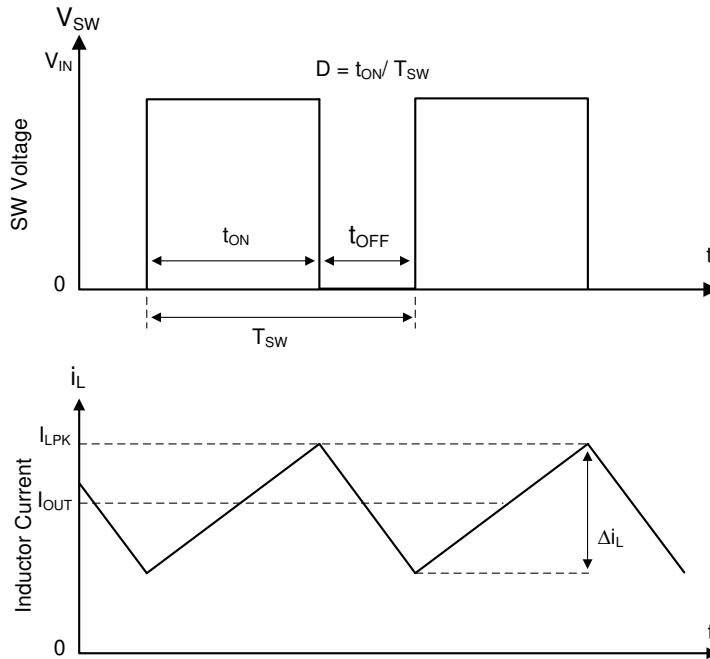

Figure 7-1. SW Node and Inductor Current Waveforms in Continuous Conduction Mode (CCM)
The following operating description of the LMR516xx refers to the Functional Block Diagram and to the waveforms in Figure 7-1. The LMR516xx is a step-down synchronous buck converter with integrated high-side (HS) and low-side (LS) switches (synchronous rectifier). The LMR516xx supplies a regulated output voltage by turning on the high-side and low-side NMOS switches with controlled duty cycle. During high-side switch ON time, the SW pin voltage swings up to approximately V_{IN} , and the inductor current, i_L , increases with a linear slope of $(V_{IN} - V_{OUT}) / L$. When the high-side switch is turned off by the control logic, the low-side switch is turned on after an anti-shoot-through dead time. Inductor current discharges through the low-side switch with a slope of $-V_{OUT} / L$. The control parameter of a buck converter is defined as Duty Cycle $D = t_{ON} / T_{SW}$, where t_{ON} is the high-side switch ON time and T_{SW} is the switching period. The converter control loop maintains a constant output voltage by adjusting the duty cycle D. In an ideal buck converter, where losses are ignored, D is proportional to the output voltage and inversely proportional to the input voltage: $D = V_{OUT} / V_{IN}$.